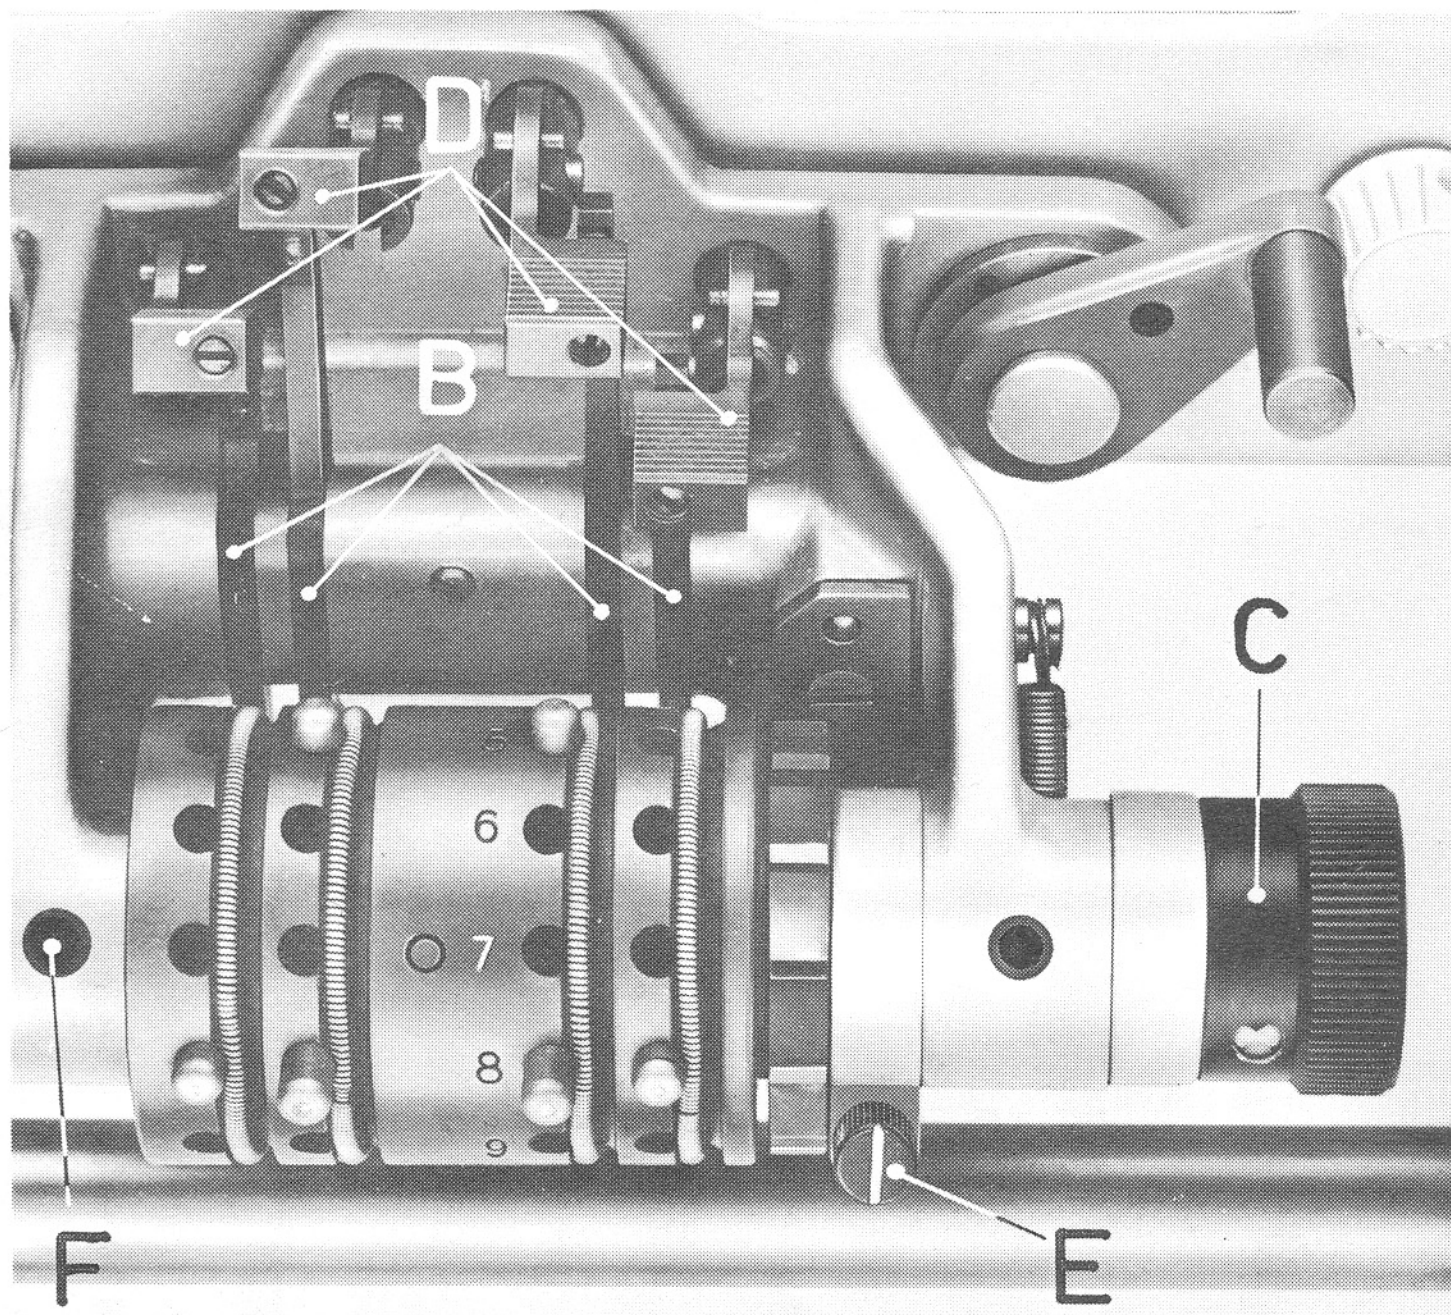

Fig. 3
The pegs - the row of four pegs corresponding to the 4 cams - operate on the levers B, fig. 3. These operate on the stems of the raising cams.
The drum can easily be removed to fix pegs. It suffices to draw outwards the axle C, fig. 3 .
- The levers D, fig. 3, enable the raising cams to be uncoupled. As shown by the photo, those of the left are uncoupled whereas those of the right are in action.
- The peg E, fig. 3, enables the rotation of the drum to be put into action or out of action.
- By hand turn the drum in such a way that the position 7 is opposite the greasing hole F, fig. 3. The pegs of the first row will now be in action.